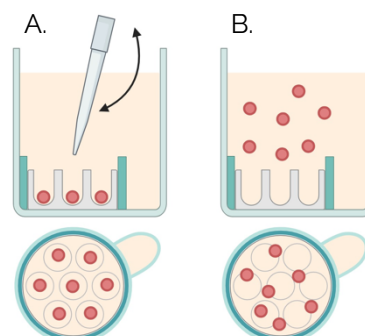

Figure 5. Spheroid retrieval from Gri3D®. Use a BSA-coated 1000 µl pipette tip to resuspend the spheroids by pipetting up and down in the cell seeding chamber.
- If spheroid retrieval is required for further downstream analyses, use a 1000 µl pipette set at 150 µl approximately and pipette up and down gently in the cell seeding chamber 4-5 times (Fig. 5). The flow will allow spheroids to be resuspended in the medium, which can be harvested in a tube. A washing step may be needed to make sure all spheroids are recovered from the microwells.